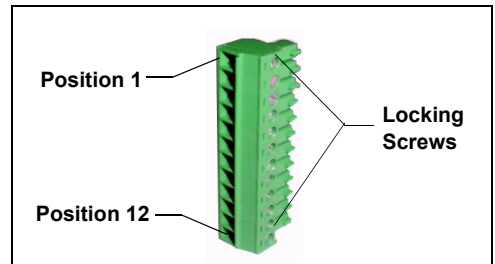

Figure C-5. 12-Position Connector Plug
1. Locate two twisted pairs of wires (P/N 043598) and 12-position connector plugs (P/N 923686) (see Figure C-5) in the ICS-1000 and AS50 Ship Kits.